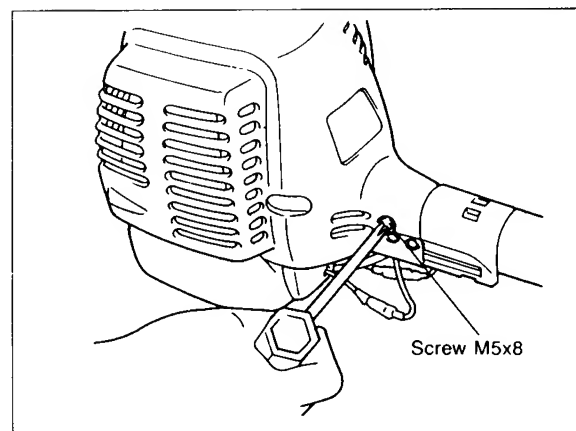

Fig. 8
4. Match the hole in the holder case to the hole in the inner shaft and insert the screw M5x8 through the holes. Then tighten the screw M5x8 and the screws M5x30. (Fig. 8)